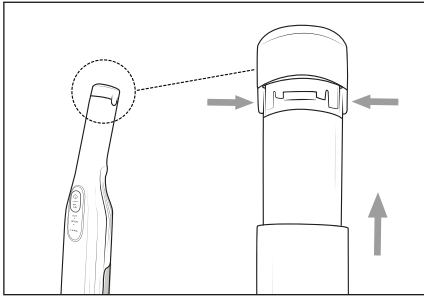

Fig. 10
- ◆ To remove the battery **1** from the appliance, press and hold both battery release buttons **2** and pull the battery **1** out of the appliance (see Fig. 10).